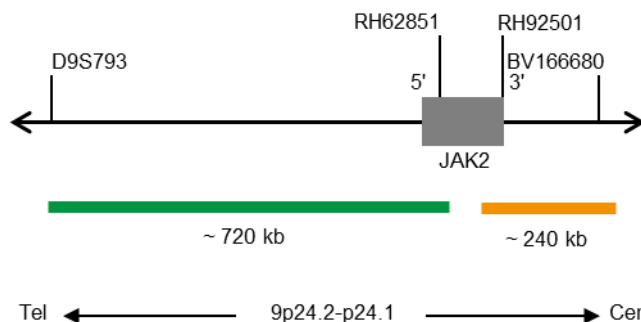

Fig. 1: SPEC JAK2 Probe map (not to scale)
- ZyGreen (excitation 503 nm/emission 528 nm) labeled polynucleotides (~10 ng/μl), which target sequences mapping in 9p24.1-24.2\* (chr9:4,311,843-5,031,620) distal to the JAK2 breakpoint region (see Fig. 1).
- ZyOrange (excitation 547 nm/emission 572 nm) labeled polynucleotides (~4.5 ng/μl), which target sequences mapping in 9p24.1\* (chr9:5,088,700-5,328,239) proximal to the JAK2 breakpoint region (see Fig. 1).